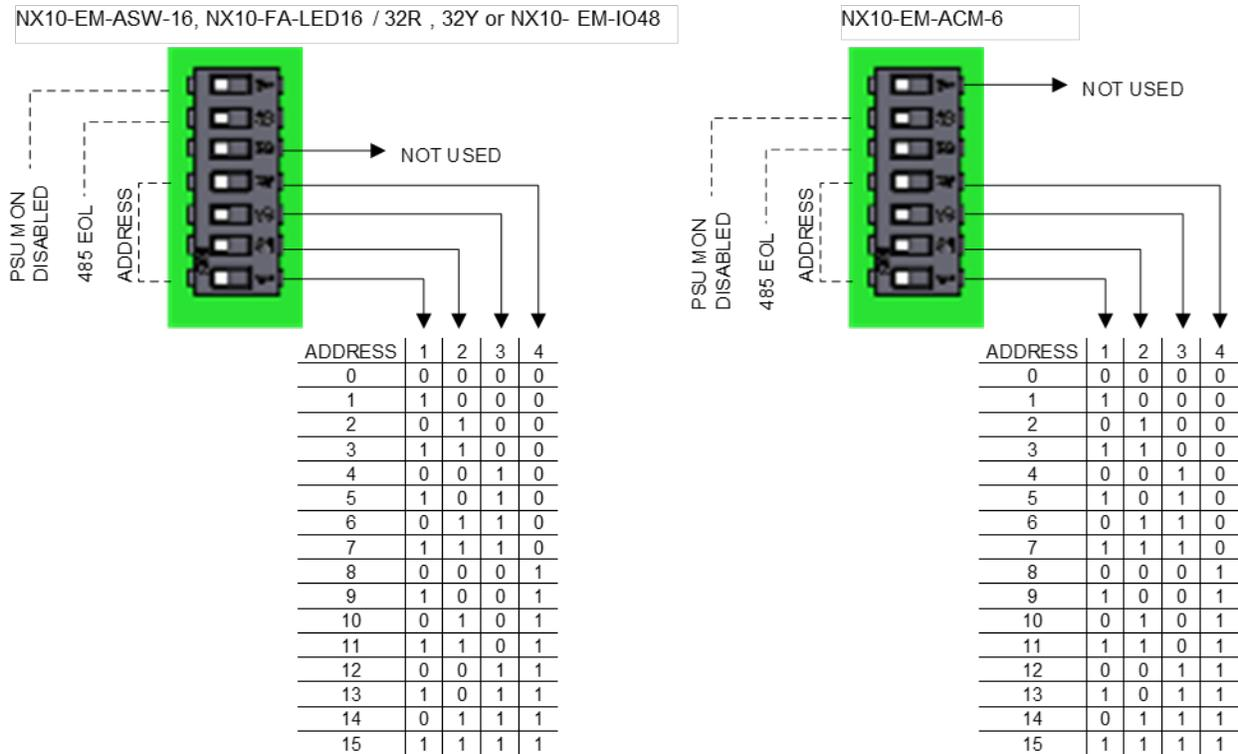

Figure 42 - Switch LED Module Addressing
1. Remove the blank single aperture plate from the enclosure's inner door by removing the four (4) hex steel nuts, star lock washers and washers securing the plate to the inner door.
3. Secure the Switch LED Module to the inner door by installing the four (4) washers, star lock washers and hex steel nuts (Figure 42).